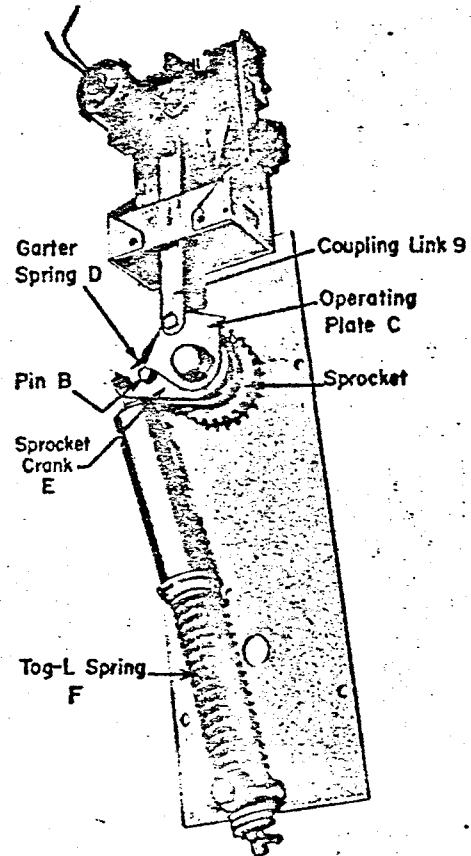

Fig. 5
Referring to Fig. 5, the motor charging attachment is coupled to operating plate (C) of the stored energy operator. When the motor operates, the coupling link (9) drives plate (C) which in turn drives sprocket crank (E) via pin (B) counterclockwise, thus performing electrically the same function as the manually-operated mechanism described on page 2. Note that garter spring (D) has been encircled around the motor coupling. Its purpose is to spring bias the coupling link, thus allowing the motor to always run in the same direction, regardless of which direction the Tog-L spring is to be charged.
This mechanism may still be operated manually with the front handle (see page 2), except the chain drives the sprocket crank (E). In this case, however, the operating handle itself is spring biased to a free wheeling position and must be clutch engaged if manual operation is desired. The manual handle in this case always incorporates a safety switch which de-energizes the motor control circuit when the manual handle is engaged. Note that if the Tog-L spring in Fig. 5 is manually operated, there will be no movement of the motor mechanism, but the garter spring will automatically bias the coupling link and operating plate in the opposite direction.
Refer to Figs. 1 and 2 below, and Fig. 5, page 9.